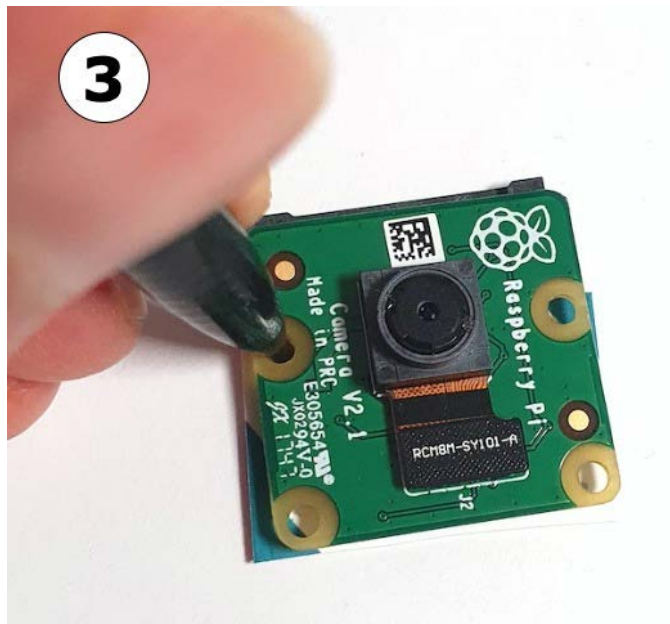

Figure 13.4 – Using a pen to mark the screw positions
3. Then use a pen or pencil to poke through the camera screw holes to mark a dot, as shown in *Figure 13.4*. Then take a pointed tool (such as the point of a cross-headed jeweler's screwdriver or a math set compass), and on a firm surface, punch a hole where you made the mark: